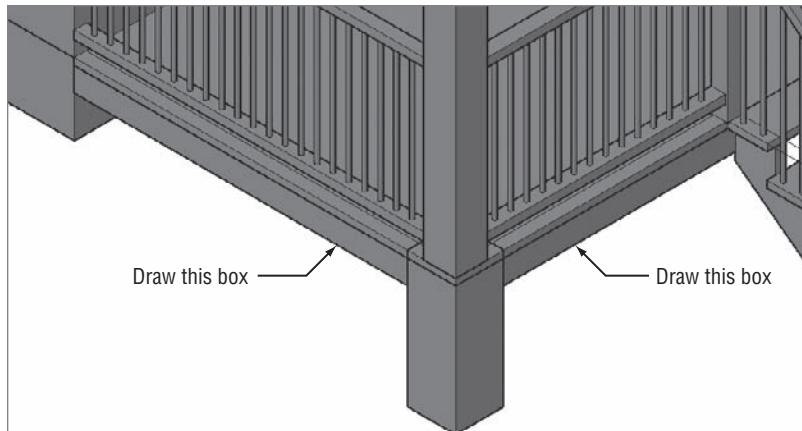

FIGURE 16.66 The 2"×6" skirt added below the deck
3. Draw a 2"×6" (51 mm×153 mm) box on the side and front of the deck just below the surface, as shown in Figure 16.66.